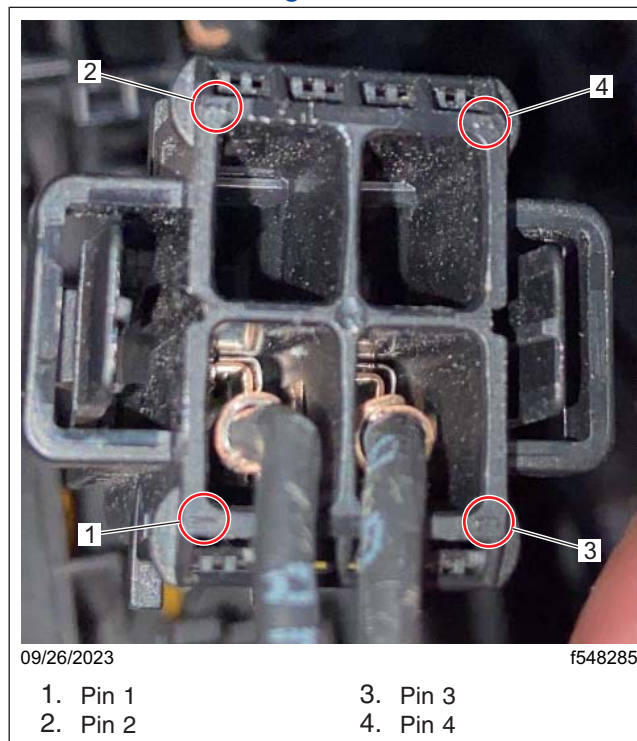

Fig. 17, SSAM X10 Connector Pin Locations
8.2 Locate pin 1 of the X10 connector. See Fig. 17.